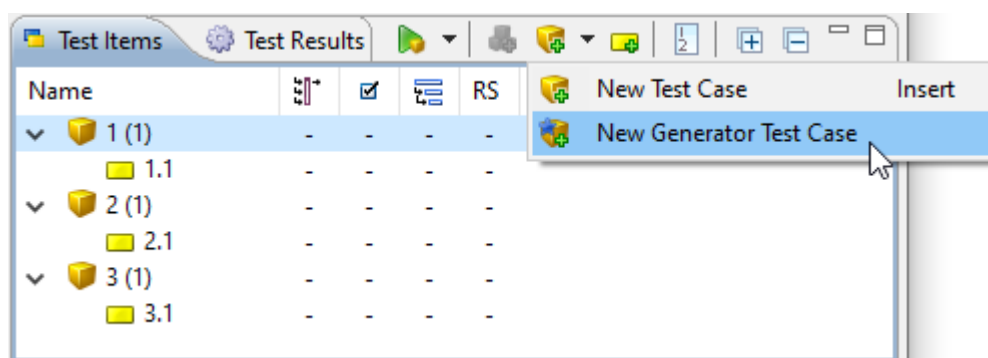

Figure 6.70: Selecting the test case generator
- Select “New Generator Test Case” (see figure 6.70).